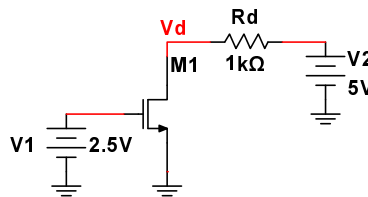
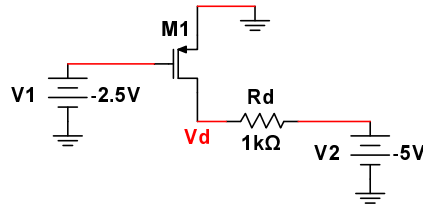

Figure 2: NMOS transistor characterization circuit
Figure 3: PMOS transistor characterization circuit
Figure 2 shows a characterization circuit for an NMOS transistor. To obtain I_D as a function of V_{GS} , V_1 is swept while V_2 is kept constant. If V_1 is kept constant and V_2 is swept, I_D can be obtained as a function of V_{DS} .
Characterization circuit for a PMOS transistor is shown in Fig. 3. Keeping V_2 constant and sweeping V_1 provides I_D as a function of V_{SG} . Sweeping V_2 while V_1 is kept constant provides the I_D vs. V_{SD} characteristics.
- Draw the schematics for the NMOS characterization circuit in Fig. 2 using the 2N7000G transistor.
- Repeat (1) for the CD4007N transistor.
- Draw the schematics for the PMOS characterization circuit in Fig. 3 using the CD4007P transistor.
- Build the NMOS characterization circuit in Fig. 2 using the 2N7000G transistor.
3. Build the PMOS characterization circuit in Fig. 3 using the CD4007P transistor, connect pin 7 to -5V supply voltage and pin 14 to GND.
1. Build the characterization circuits in Figs. 2 and 3 for 2N7000G, CD4007N and CD4007P transistors on your breadboard and bring it to your lab session.